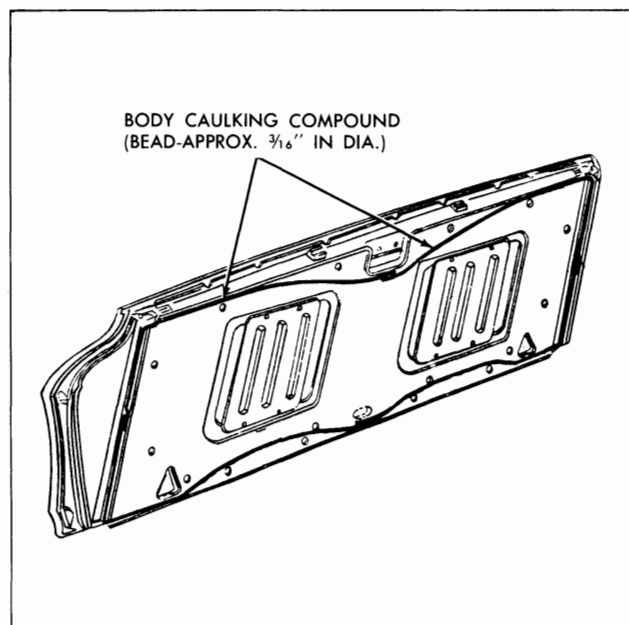

Fig. 5-20 Tail Gate Inner Panel
3. Apply a bead of body caulking compound (approximately 3/16" diameter) to tail gate inner panel (Fig. 5-20).